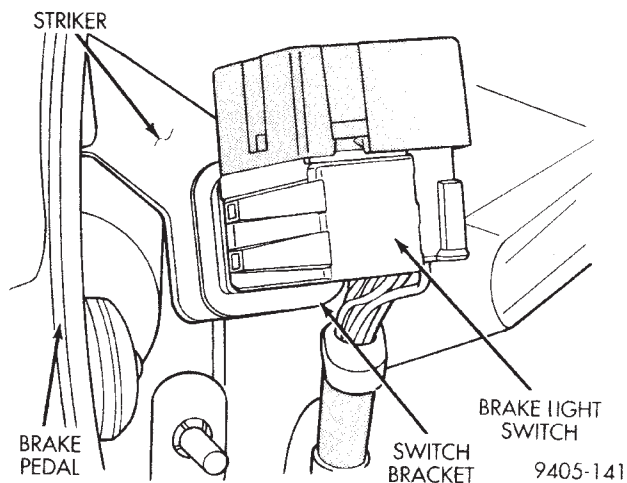

Fig. 168 Stop Light Switch Location In Vehicle
- (1) Remove stop lamp switch from its bracket by rotating it approximately 30° in a counter-clockwise direction.
- (2) Disconnect wiring harness connector from stop lamp switch.
- (3) Hold stop lamp switch firmly in one hand. Then using other hand, pull outward on the plunger of the stop lamp switch until it has ratcheted out to its fully extended position.
- (4) Install the stop lamp switch into the bracket using the following procedure. Depress the brake pedal as far down as possible. Then while keeping the brake pedal depressed, install the stop lamp switch into the bracket by aligning index key on switch with slot at top of square hole in mounting bracket. When switch is fully installed in the square hole of the bracket, rotate switch clockwise approximately 30° to lock the switch into the bracket.
**CAUTION:** Do not use excessive force when pulling back on brake pedal to adjust the stop lamp switch. If too much force is used, damage to the vacuum booster, stop lamp switch or striker (Fig. 168) can result.
- (5) Connect the wiring harness connector to the stop lamp switch.
- (6) Gently pull back on brake pedal until the pedal stops moving. This will cause the switch plunger (Fig. 168) to ratchet backward to the correct position.